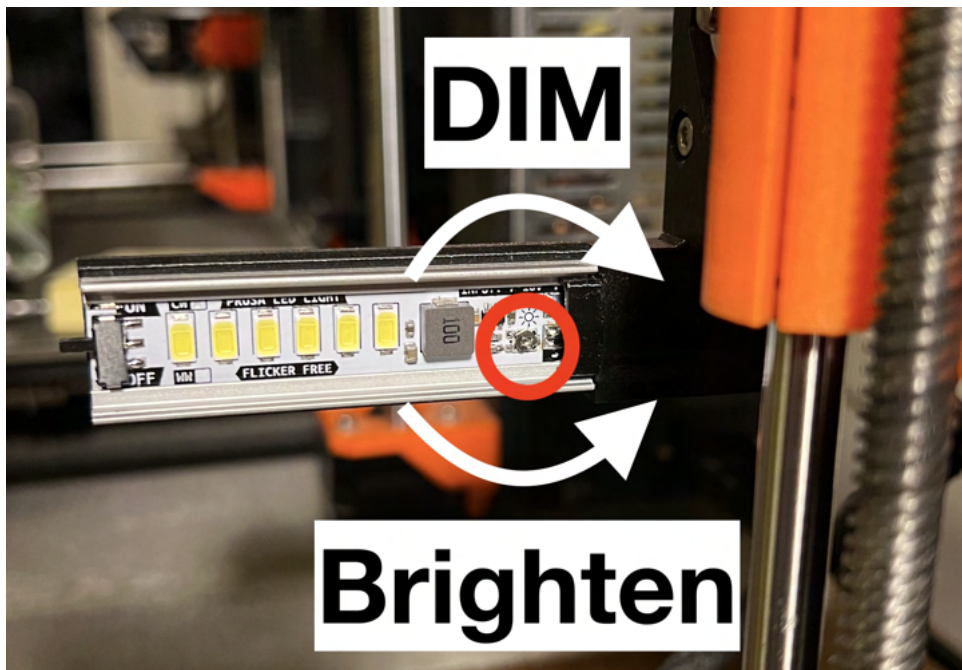

Figure 17: Illustration of how to dim and increase the brightness of the LED light.
3. After the diffuser is removed you can adjust the brightness by turning a small potentiometer marked in the red circle in Figure 17. By turning the potentiometer clockwise you will reduce the brightness, turning it anti-clockwise will increase the brightness. **NOTE**, its recommended to use a plastic screwdriver to not shorten anything. If you use a metallic screwdriver you might experience a flickering in the light while adjusting if its turned on. This is not dangerous and is only a visual effect, the reason is you create a new current path for the feedback loop.